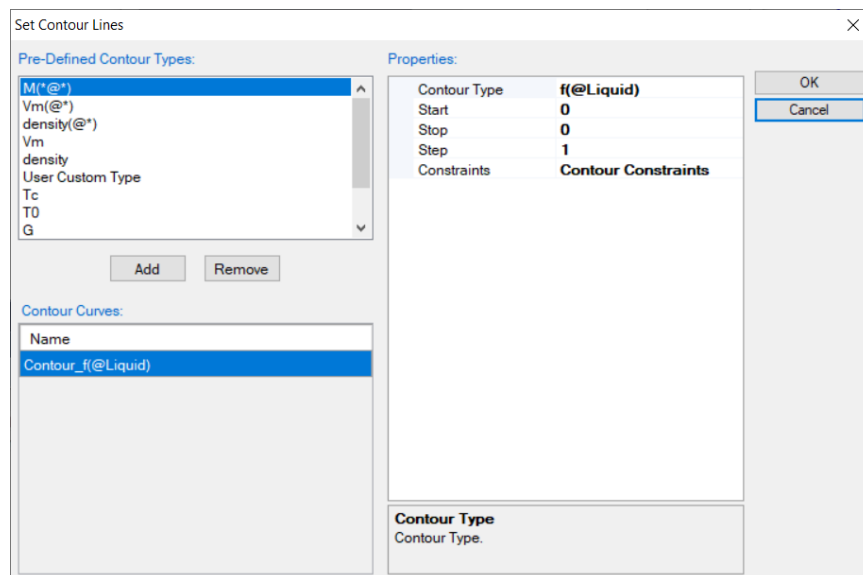

Figure 1.25.3 Contour line setting for the ZPF line of the liquid phase.
- Set “Contour line” calculations to highlight the ZPF line of the liquid phase. Click “Contour line” in the interface shown Figure 1.25.1, The “Set Contour Lines” interface pop-up as shown in Figure 1.25.3, select the “f(@*)” from the Pre-Defined Contour Types, “f(@*)” means the fraction of certain phase, then select “Liquid” to replace the “*” to define the fraction of liquid phase. Start value and Stop value are set as “0”, and Step value set as “1”. Then click OK.